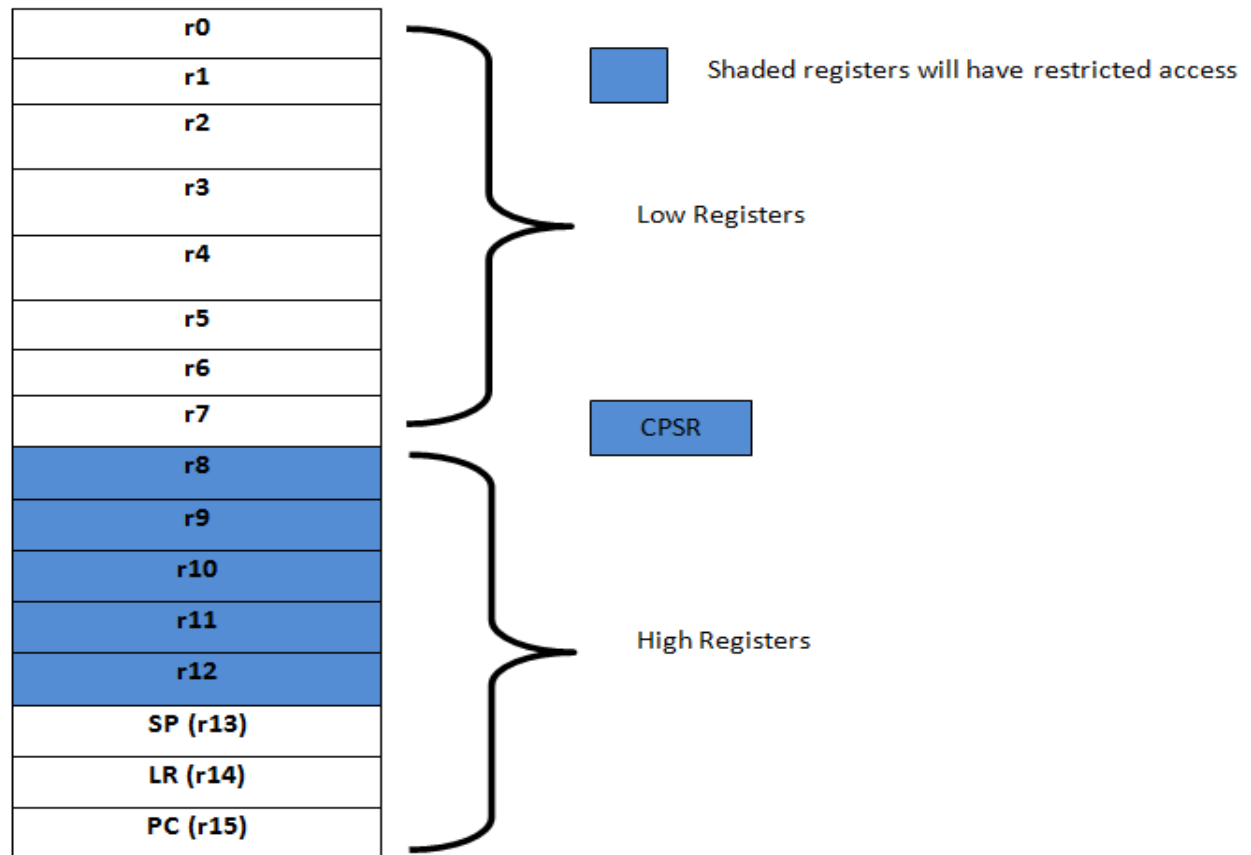

Figure 7.4 Register structure for THUMB
- All the registers in thumb are not directly accessible. Figure 7.4 can be referred for the better understanding.